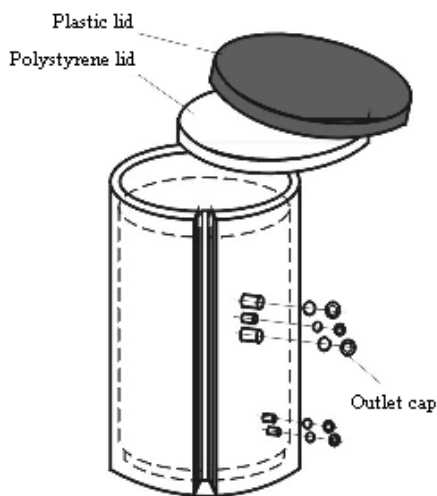

Figure 22
**After the insulation coat is properly mounted and the zip-fastener closed, insert the top lid made of foam material and cover it with either a foil cover or a plastic lid. Alternatively, outlet caps can be glued on the connecting points (as indicated in Figure 22).**